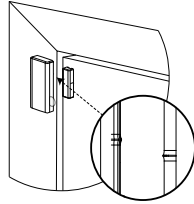

Figure 3: Device and magnet position on door and door frame
of the door or window itself, directed according to the location marks. See Figure 3.
3. Screw the magnet base on to the door, aligning it with the line on the device. See Figure 3.